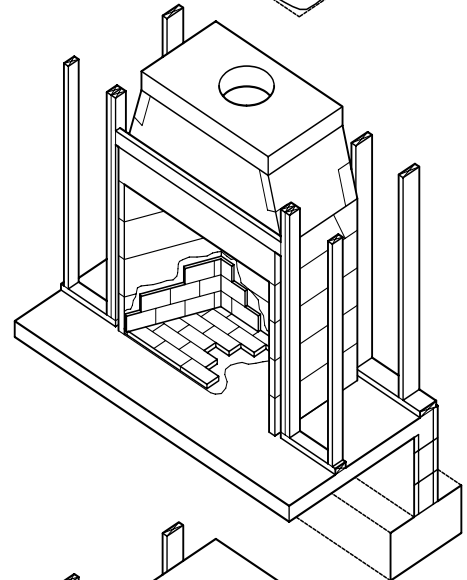

FIGURE 10
**Notes:** If the design preference is for a “flush hearth” (fireplace floor flush with the room’s floor), the base plate can be omitted from the assembly and the firebox walls built directly on the concrete support slab. The fire brick floor of the firebox is then set directly to the concrete support slab. This makes the fireplace finished fire brick floor approximately one and one-half inches (1-1/2”) above the top of the concrete support slab (Figure 10).